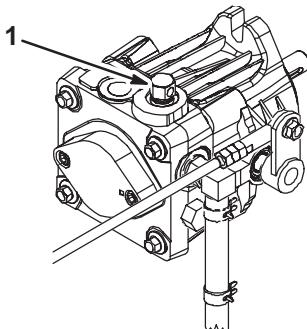

Figure 28
1. Rotate the by-pass valves clockwise 1 turn to operate machine (Fig. 28).
2. Rotate the by-pass valves counterclockwise 1 turn to push. This allows the hydraulic fluid to by-pass the pump enabling the wheels to turn (Fig. 28).